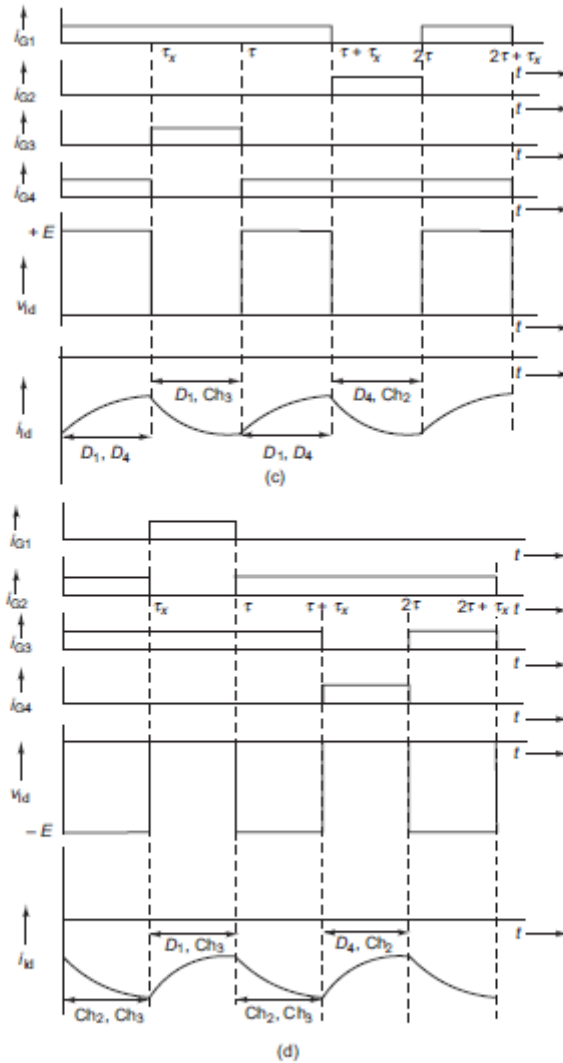

Figs 3.18(a) and (b)
**Method 3** This method consists of operating the same combinations of chopper pairs, as in method 2, to provide four-quadrant operation. However, the chopper pairs are controlled in such a way that if one of them conducts during some interval, the other pair is off. The waveforms for the first, fourth, second, and third quadrants are given, respectively, in Figs 3.18(a), (b), (c), and (d).
**Fig. 3.18** Waveforms for four-quadrant chopper operation (method 3): (a) first-quadrant operation, (b) fourth-quadrant operation, (c) second-quadrant operation, (d) third-quadrant operation